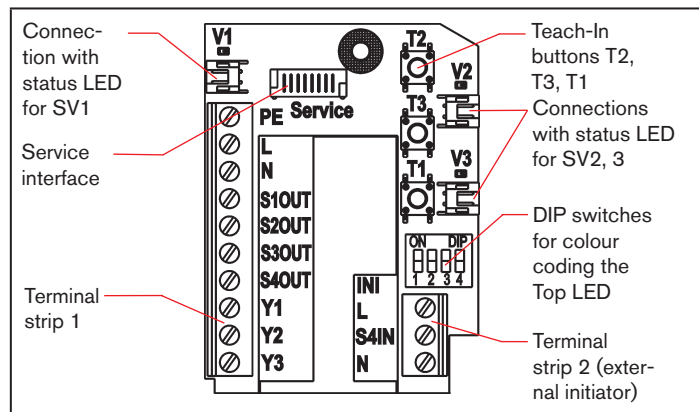

Fig. 8: Electronic module (120 V AC)
- Connect the wires to the terminal strips according to the pin assignments described in “Fig. 8”.